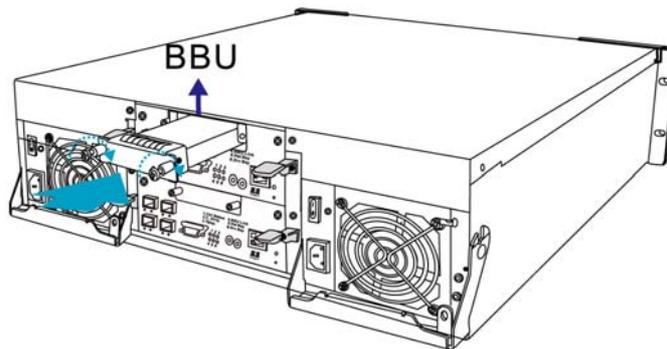

Figure 2-12: Installing the BBU
**Step 3.** Secure the BBU to the subsystem by fastening the two (2) retention screws on the BBU. (See *Figure 2-12*)